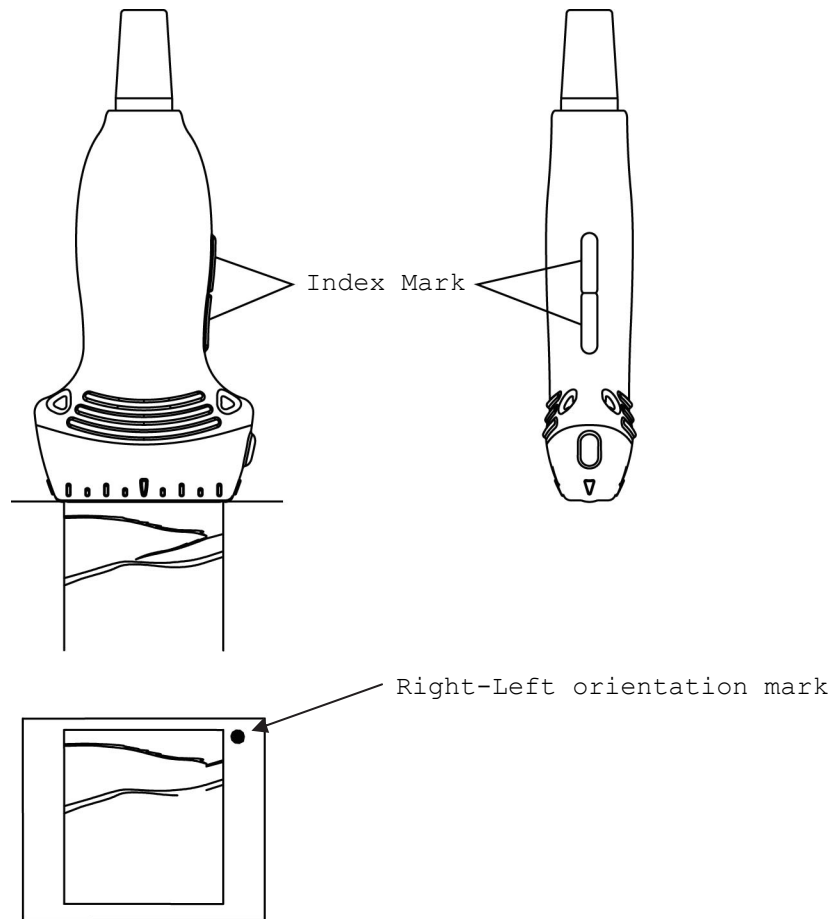

Fig. 2 Relationship between direction of the probe and Right-left orientation Mark
- 4) Relationship between direction of the probe and the image is shown in Fig. 2. The right-left orientation mark on the image indicates the index mark on the probe.